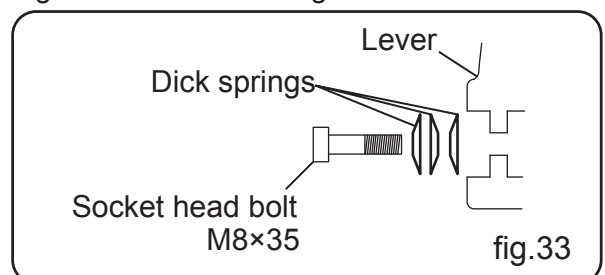

fig.33
- A. Be careful the way of dick springs as per fig.33 when assembling the lever.